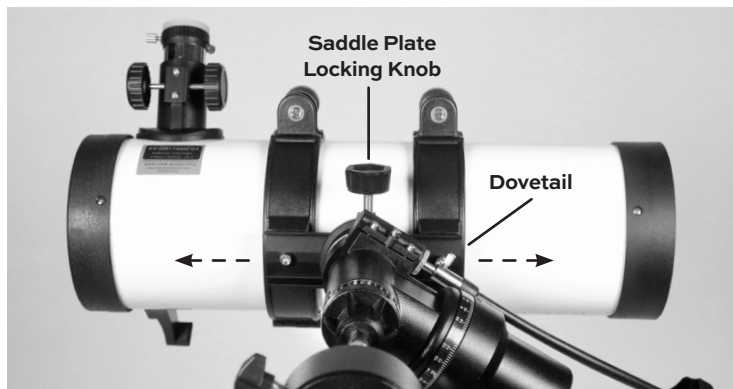

Figure 7.3
9. Holding the telescope with one hand, loosen the saddle plate locking knob until you can slide the dovetail in the saddle plate (Figure 7.3). **YOU MUST BE CAREFUL TO NOT LET THE TELESCOPE FALL OUT OF THE SADDLE PLATE.**